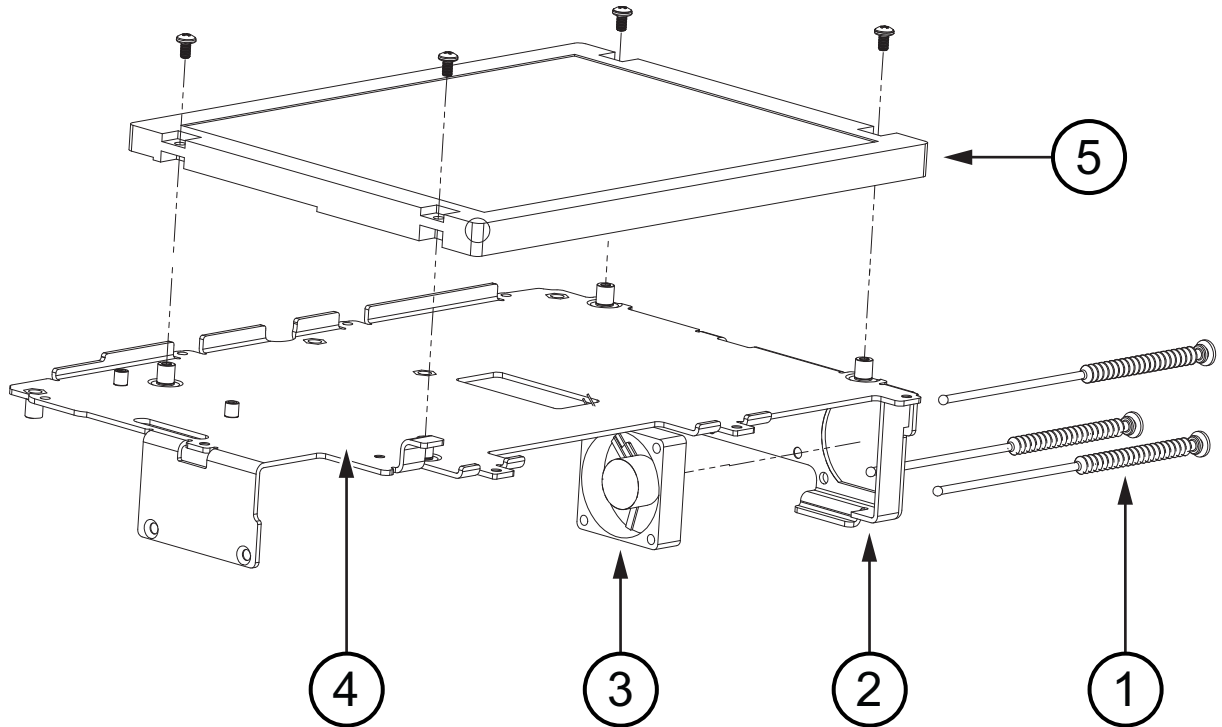
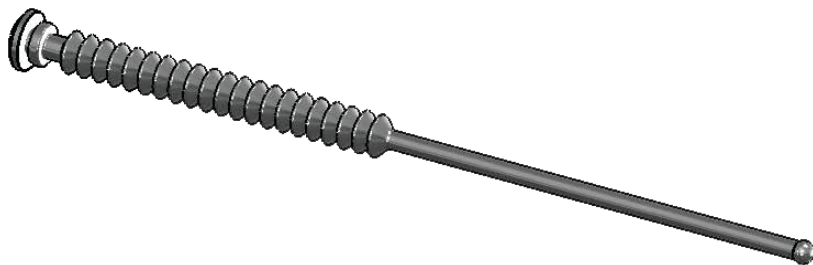

Figure 4-29. Fan Assembly Replacement
Figure 4-30. Fan Fastener, Silicone Rubber
Figure 4-28 and Figure 4-29 on page 4-39 show the fan and its mounting.
4. Cut and remove the silicone rubber fasteners holding the Fan Assembly to the metal pan (LCD frame, item 4 in Figure 4-29). The silicone rubber fasteners are item 1 in Figure 4-29 (also shown in Figure 4-30).